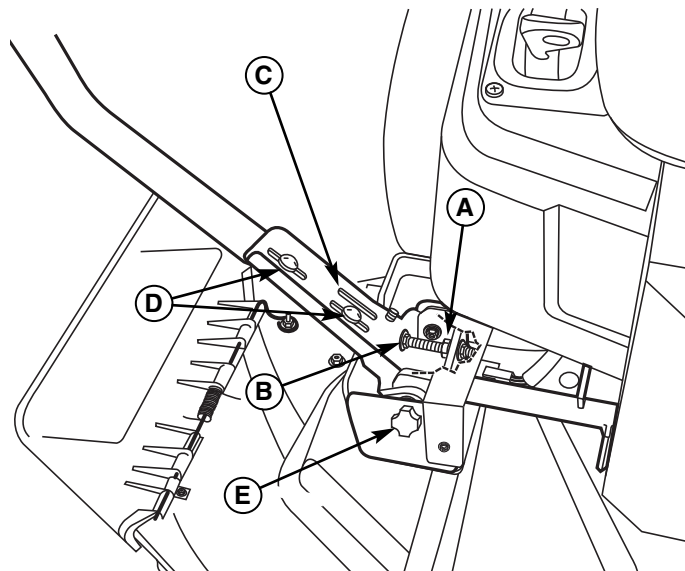

Figure 32. Control Lever Adjustment
To Adjust Control Lever Height: Pull the levers in across the operator's lap to their DRIVE positions. Loosen the mount bolts (D, Figure 32) and raise or lower the levers to the desired position. Tighten the mounting bolts.(D).
To Adjust Control Lever End Gap: The control lever end gap should be adjusted so that the levers do not contact each other when placed in DRIVE positions. Loosen the jam nut (A, Figure 32) and adjust the length of the carriage bolt (B) so that the levers do not contact each other. Repeat on the opposite side. Tighten the jam nut (A) to lock the carriage bolt in position.
To Adjust Operator Clearance: The space between the operator and the control levers can be increase by removing the lower mounting bolt (D, Figure 32), pivoting the lever forward, and reinstalling the capscrew through the control lever and forward slot (C). Repeat with the other ground speed lever.
If the rider veers to the right or left when the ground speed control levers are in the maximum forward position, the top speed of the right lever can be balanced by turning the adjustment knob (E, Figure 32). Loosen the jam nut and turn the knob COUNTERCLOCKWISE to increase speed or CLOCKWISE to decrease speed. Tighten the jam nut when complete.